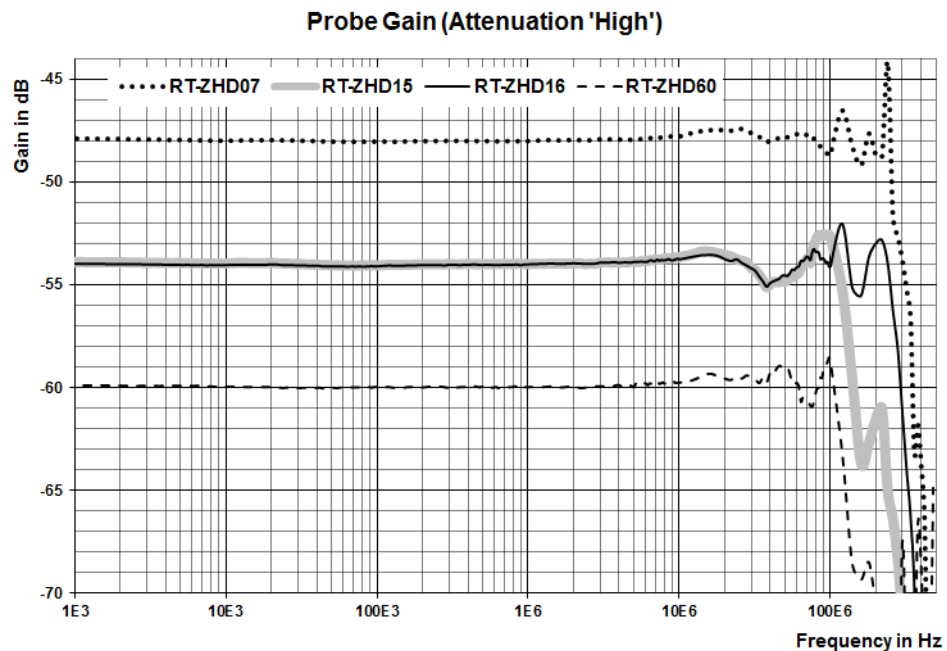

Figure 4-3: Amplitude frequency response of the R&S RT-ZHD (Attenuation 'High')
- Specifies the maximum frequency at which a purely sinusoidal signal is still transferred at 70 % (–3 dB) of its amplitude, see Figure 4-3.